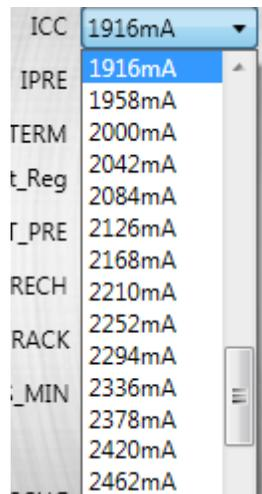

Figure 8: Setting the Constant Charger Current
- The default charge current is set to 1916mA. The actual charge current is limited at the input current limit setting (see Figure 8).